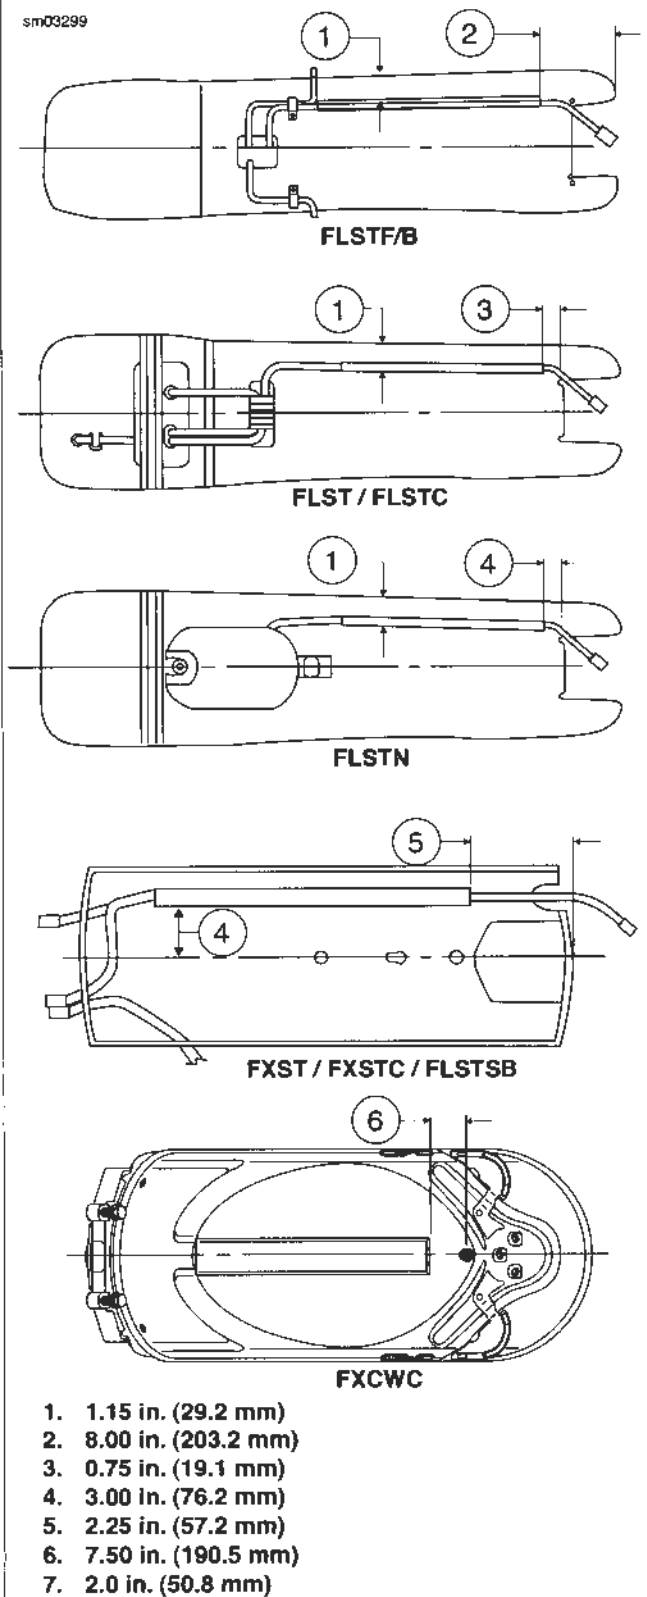

Figure 2-120. Conduit Placement
8. See Figure 2-120. Lightly position the conduit in place.